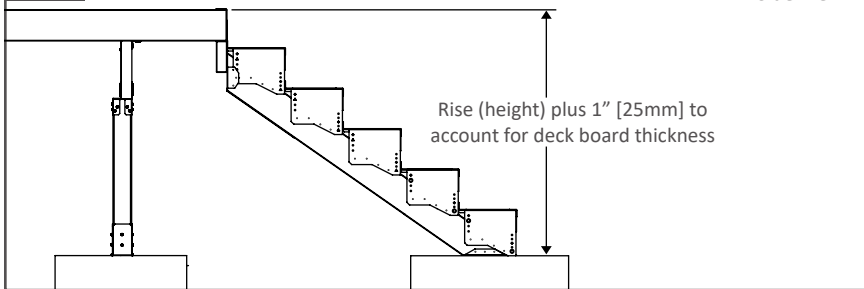

Fig. 106
4. Input measured rise into the stair calculator “Rise and Tread: Total Rise” section. As shown in Fig. 106.